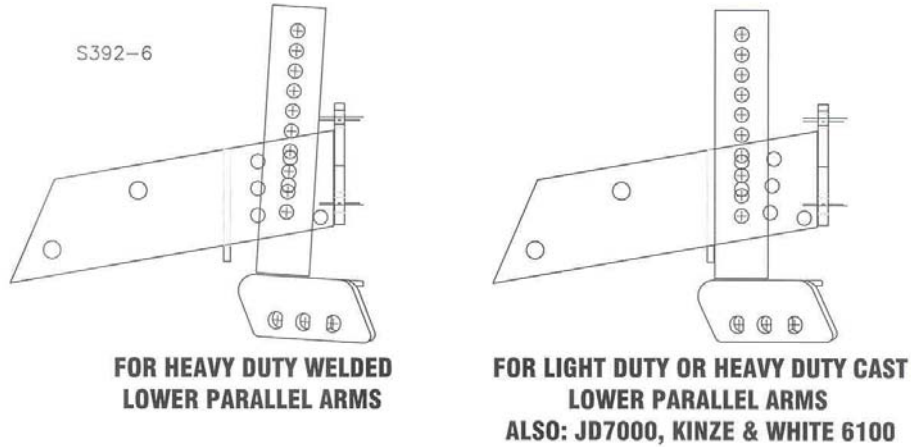

FIGURE 1
STEP 9. The universal model that fits on JD 7200/1700 series planters can be mounted two ways (See Figure 1). The front set of holes is to mount these models on planter units with light duty or heavy duty cast lower parallel arms. The rear set of holes is for planter units with heavy-duty welded lower parallel arms.